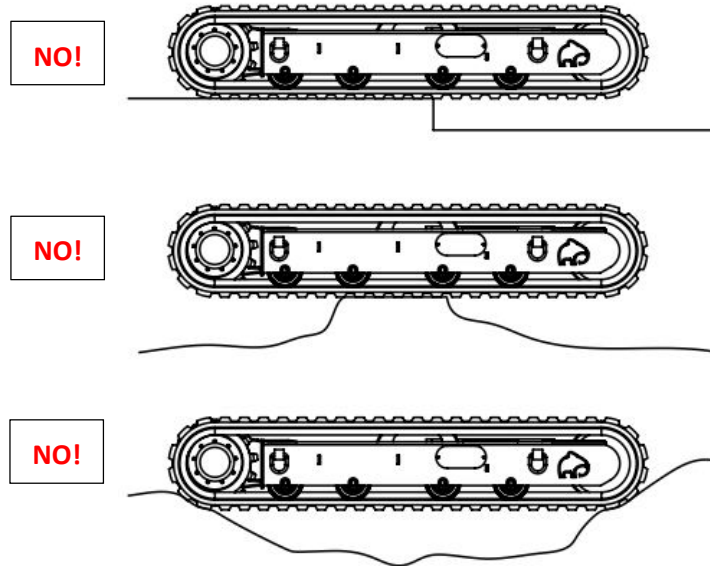

Fig. 7.5-6 - Example of an error in moving the machine: no change of direction on large differences in height
- While moving, do not change directions on kerbs, rocks or uneven ground (more than 20 cm or 8"). In this case, always proceed perpendicular to the obstacles (Fig. 7.5-6).